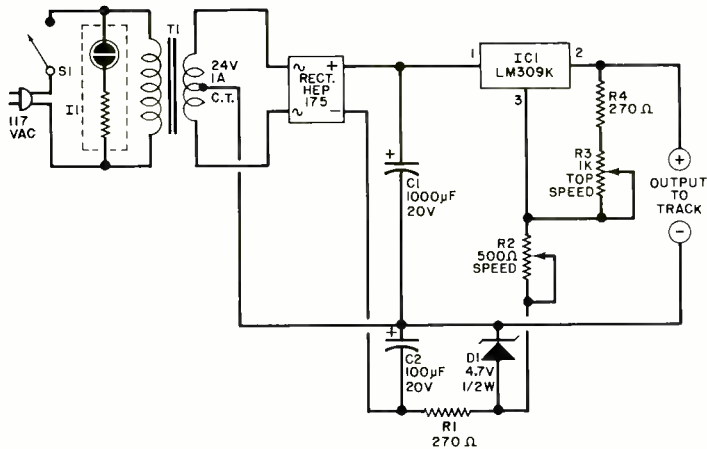

Fig. 4. Speed control circuit for slot cars and HO model trains as submitted by a reader.
**Readers' Circuits.** John M. King (1194 Idylberry Road, San Rafael, CA 94903), who submitted the low-light indicator circuit featured in last September's column, has come up with another winner. As his previous circuit, John developed the project to solve a problem encountered by his son, who received a slot car racing set for Christmas. After a while, John and his son found that the 45-ohm rheostat speed controllers supplied with the set were far from satisfactory. If the cars were operated at slow speeds, they would tend to stall with even minor load increases, such as a slope or increased friction on some track sections. If additional power were supplied to pull up an incline, the cars would tend to speed up and crash off the track on the downhill side. John's solution, illustrated in Fig. 4, was a voltage-regulated dc power supply with both a continuous "speed" control and a "top speed" fixed adjustment.